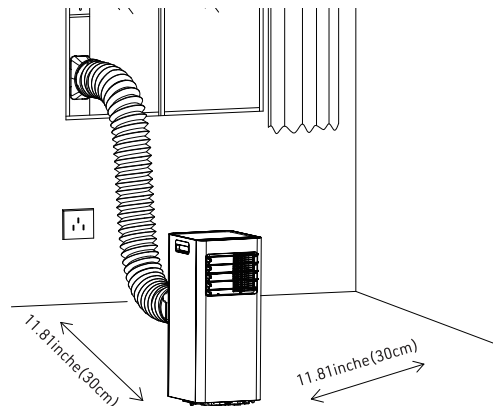

Figure. 11
- 1.) Place the machine on flat and dry ground, and keep it far from around things at least 30cm. (as shown in Figure 11)